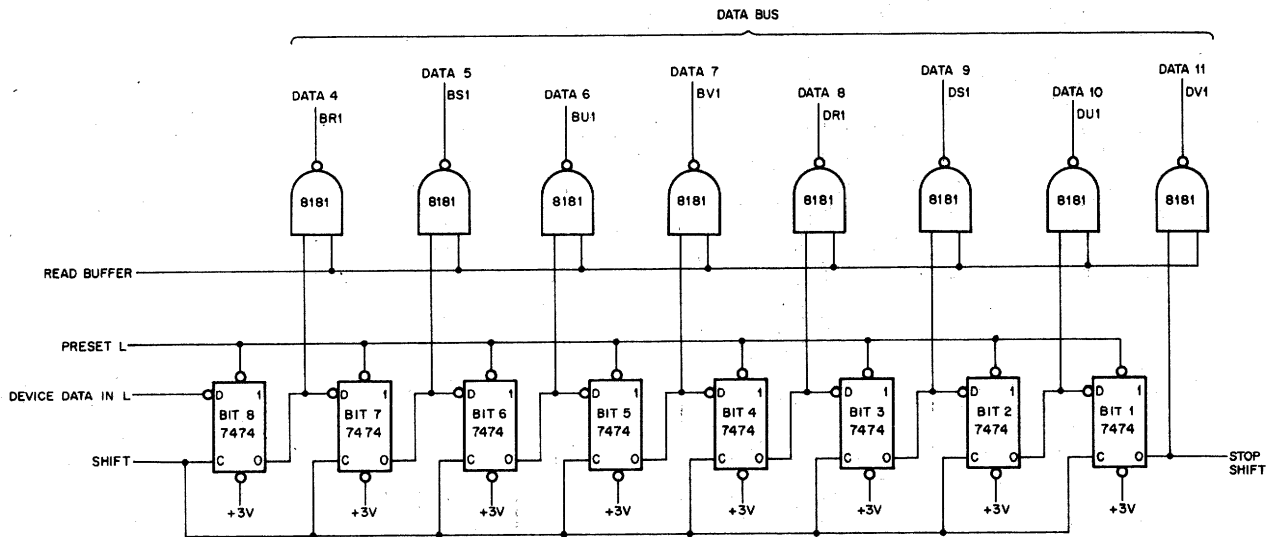

Figure 9-13 Serial to Parallel Input Buffer
**INPUT BUFFER**—The input buffer serves to receive device data at the device timing and applies the data to the DATA BUS during an IOT instruction. Figure 9-13 illustrates a serial to parallel input buffer representing 8 bits applied to DATA 4 through 11 of the DATA BUS. A slight modification eliminating the shift function and having each data input applied to the corresponding flip/flop makes the serial input into a parallel input type buffer.